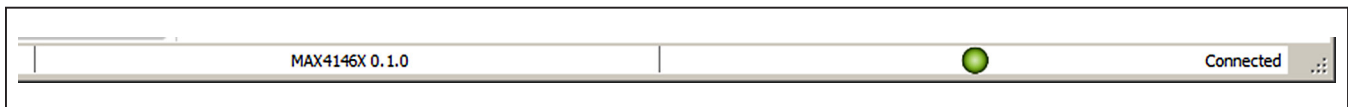

Figure 7. Connected Indicators.
- b. Confirm the firmware status bar has changed from “MAX4146X x.x.x” to “MAX4146X 0.1.0” or similar, the software LED is lit green, and the port status is noted as “Connected” (see Figure 7).